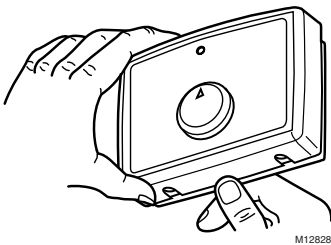

Fig. 2. Remove cover from base.
1. Remove the cover by placing your thumb in the bottom notch between the cover and the base and pulling out and up. See Fig. 2.